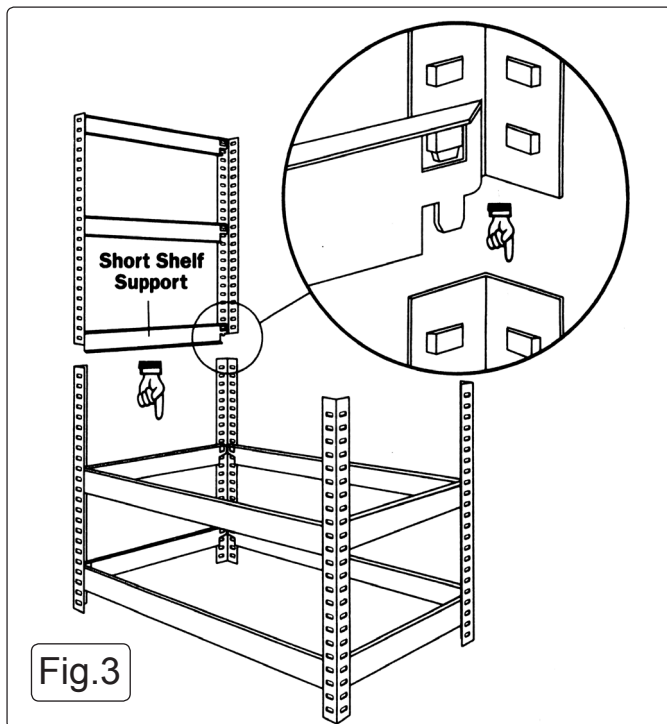
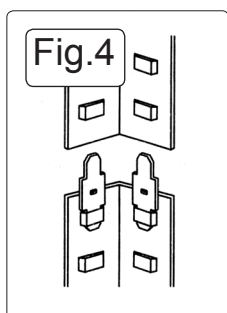

Fig.3
Fig.4
- 4.4 Decide the shelf positions for the upper section of the shelves and assemble two more end frames, each using 2 leg angle sections and 3 short shelf supports ensuring that the shelf supports are at the same height on both frames. The upper half can be joined to the lower half by using the lower shelf supports as shown in Fig.3. If the lower shelf is not positioned at the centre of the frame use the special joining pieces as shown in Fig.4.